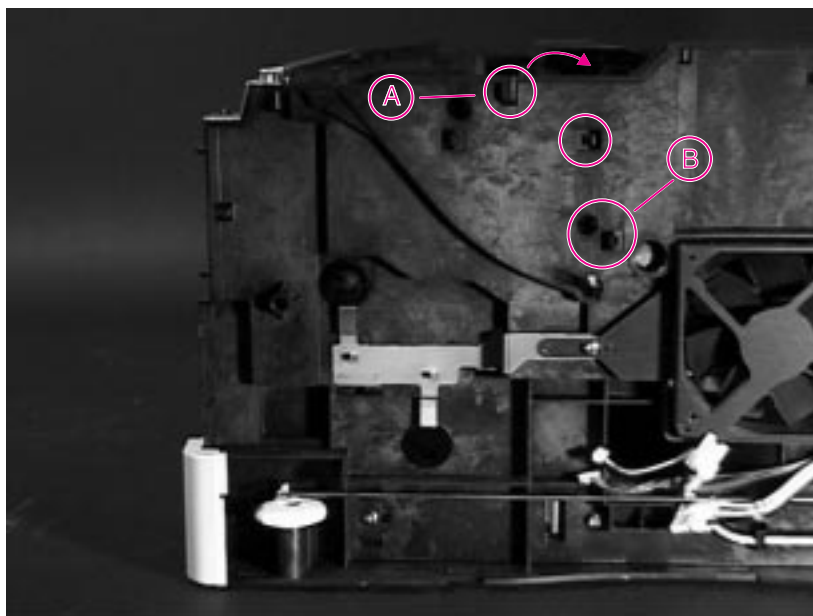

Figure 6-61 Toner Cartridge Guide
- 2 Release the “leading” tab (A) first. See Figure 6-61.